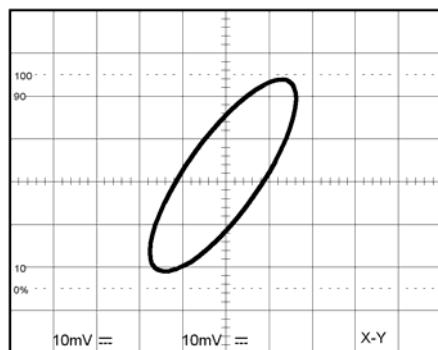

Figure 5-7 Typical single X-Y display.
To compare the frequency and phase between two signals by using the X-Y mode. The X-Y waveform displays different amplitude, frequency, and phase. The figure 5-7 shows a typical waveform made up of two signals that are of the same frequency and amplitude, but approximate 45° out of phase.
3. Set the X-Y button to X-Y operation (shown as Fig. 5-7 below).